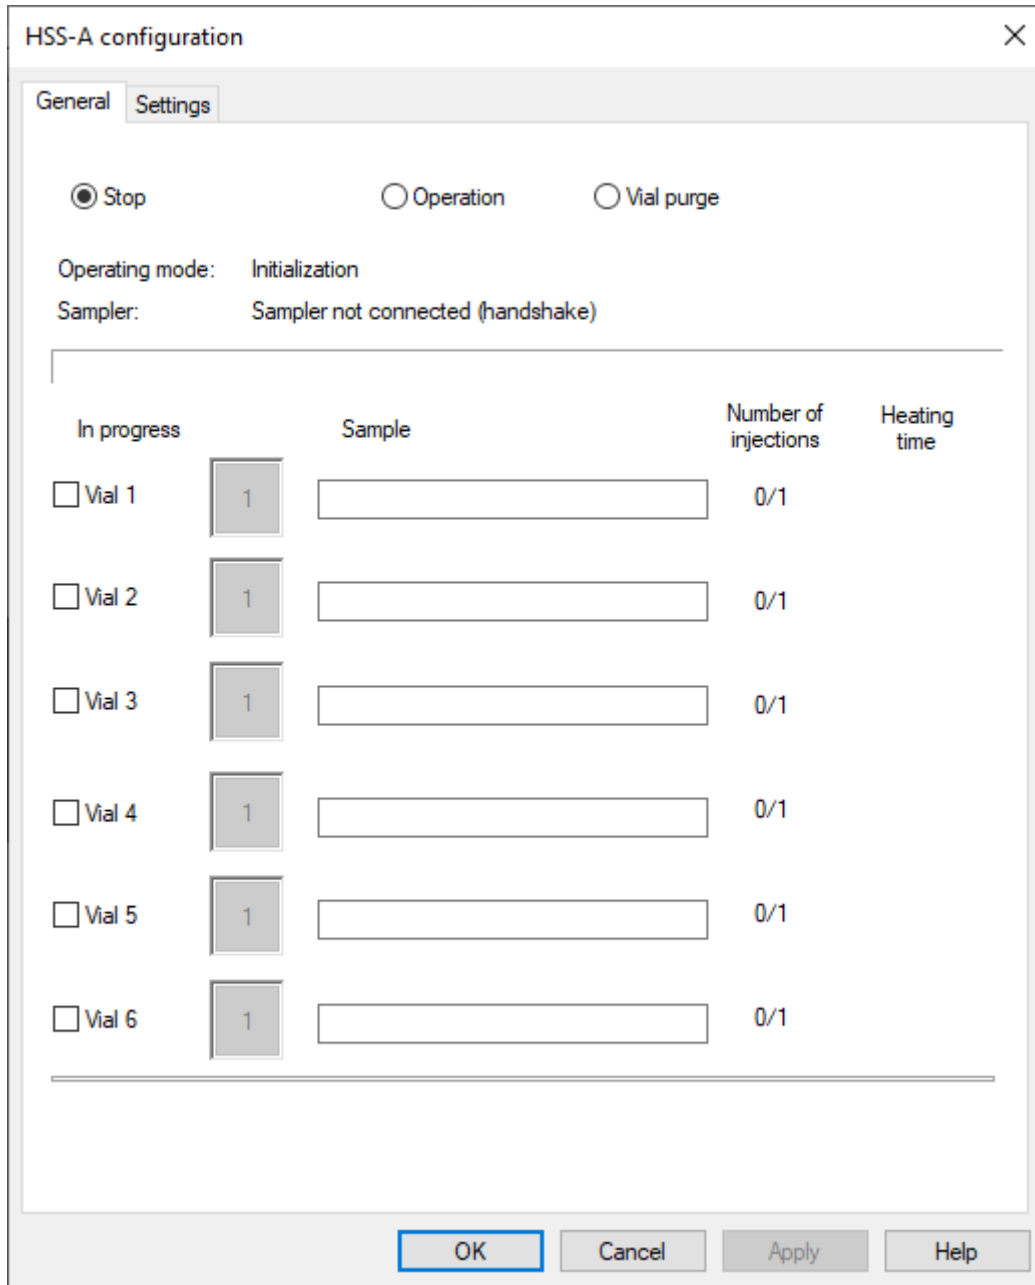

Fig. 80: HSS-A Configuration > General
1. Navigate to *HSS-A Configuration > General* (Fig. 80).